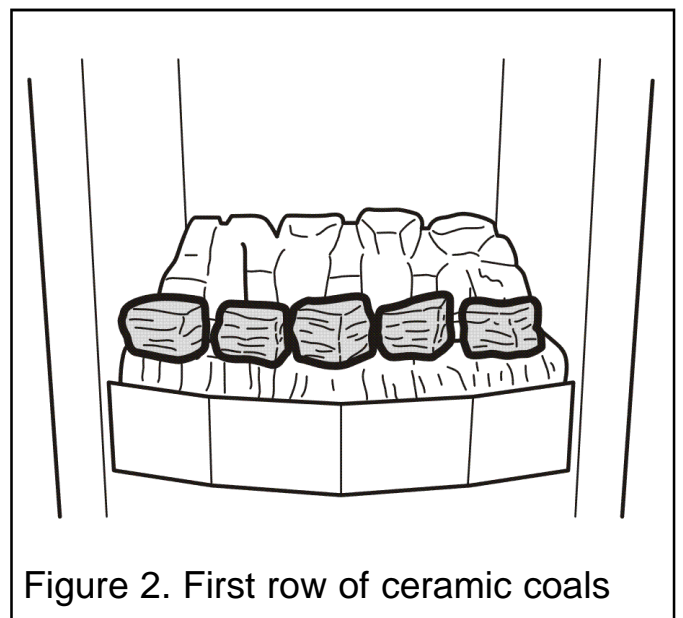

Figure 2. First row of ceramic coals
2. Install the fourteen loose overlay ceramic coals as follows. The smooth surfaces of the ceramic coals should be at the bottom and back. Place five of the ceramic coals along the top of the front base coal (See figure 2). The ceramic coals should be evenly spaced. Each ceramic coal can be rotated to give a random effect. Placing the ceramic coals with flat sides facing forward will give a very uniform appearance.